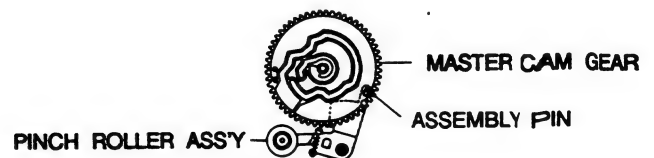

Fig. 48 Pinch Roller Assembly and Master Cam Gear Assembly
2. Reinstall master cam gear with pinch roller ass'y. in the eject mode. Refer to Fig. 48.